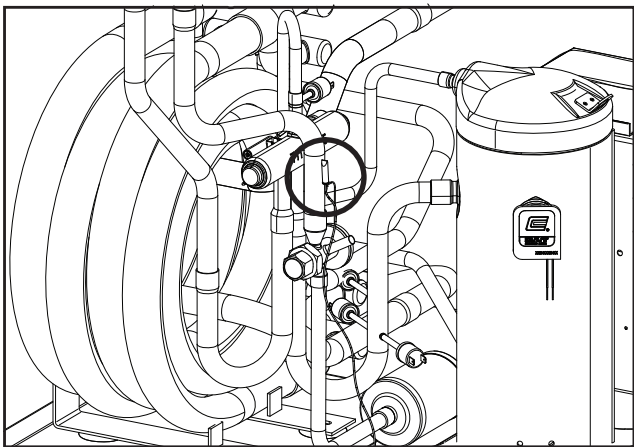

Fig. 10 - Evaporator Freeze Protection Sensor Location
- Evaporator freeze protection sensor, mounted after the thermal expansion device and the evaporator, monitors refrigerant temperature between the evaporator coil and thermal expansion valve. If temperature drops below or remains at freeze limit trip for 30 seconds, the controller will shut down the compressor and enter into a soft lockout condition. The default freeze limit trip is 26°F. See Fig. 10.